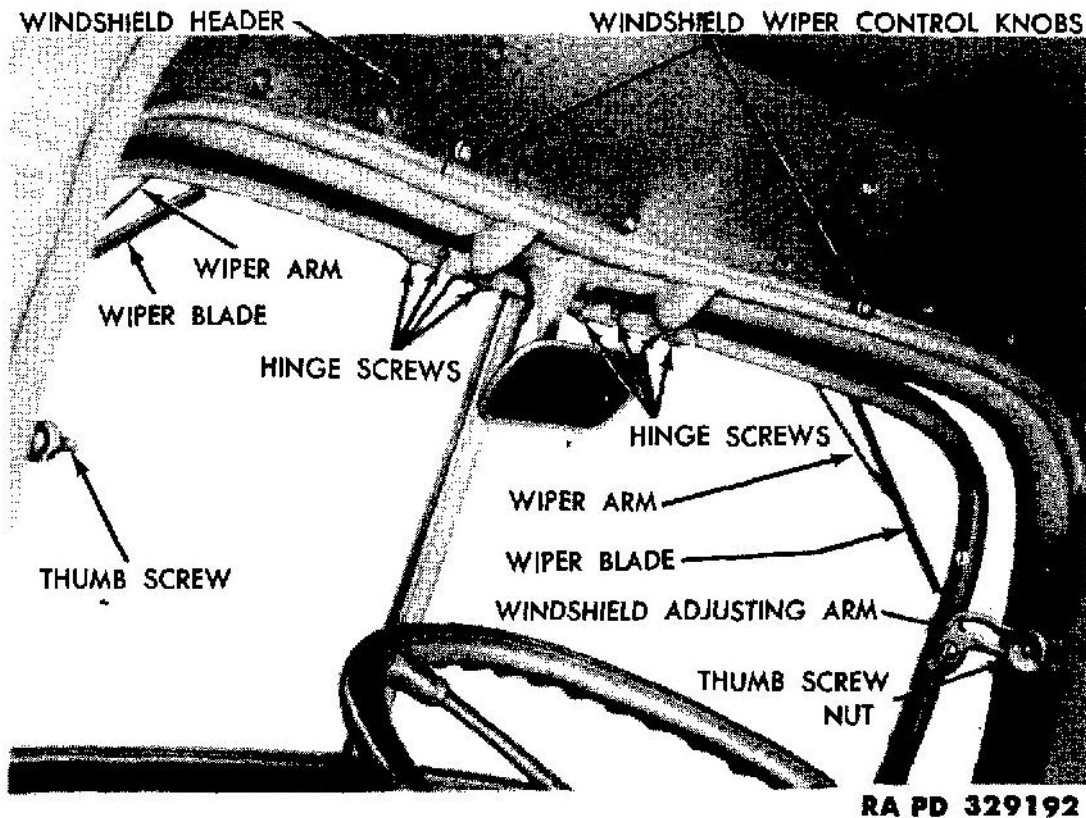

Figure 80 — Windshield Hinges
140. WINDSHIELD REPLACEMENT (fig. 80).
b. Removal. Unhook the wiper blade from the windshield wiper arm. Remove the clamp nut, which secures the wiper arm to the windshield wiper shaft, and remove the arm. Remove the nut, at the front side of the windshield, which secures the wiper motor to the roof of the cab. Remove the outer mounting spacer and washer. Remove the screws from the windshield header (fig. 80) on the inside of the cab and remove the header. Remove the vacuum hose from the wiper motor, and remove the motor.